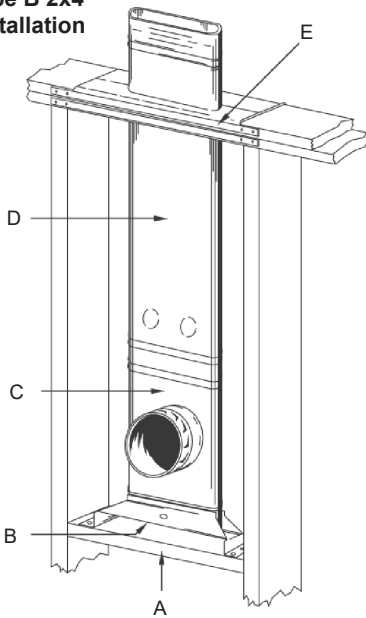

Fig. 40
5. The Firestop Spacer (FS) must be installed at each floor level. See Figure 40.
**NOTE:** Only the straight Vent Pipe Sections, with or without the Oval Tee, may be used inside the stud bay with reduced clearances to combustibles. See Figure 40.
2. Nail a 2x4 support (A) at the desired height between the studs. See Figure 40.
3. Attach the Tee Support (B), the Tee (C)
with the Oval Tee Cap, and the Vent Pipe (D) as shown on Figure 40.
4. At each floor level above the Tee, install the Firestop Spacer (E) seen in Figure 40.